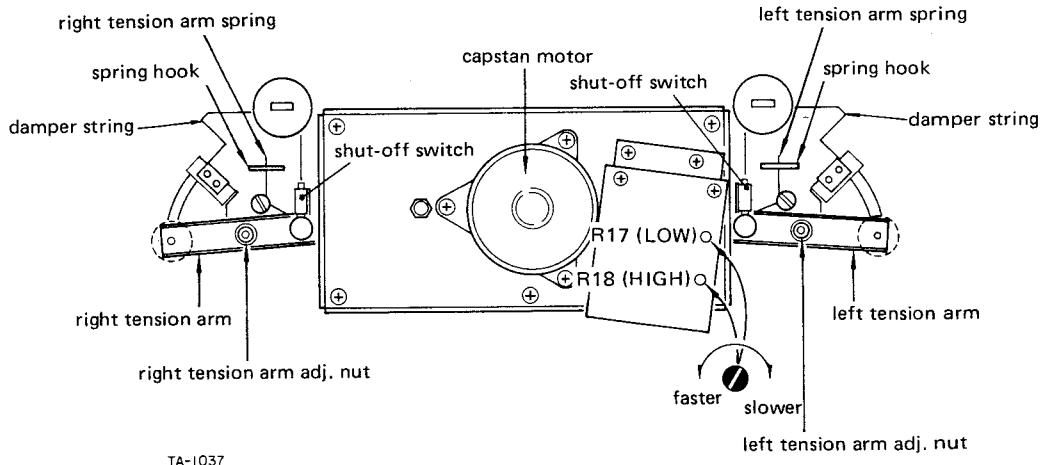

Fig. 2-8 Tension arm height, tension arm force, damper function, and tape speed
3. Stop left (right) guide roller's rotation by hand. Adjust by turning the left (right) tension arm adjusting nut (refer Fig. 2-8) so that the tape moves in the center of the guide roller.
- Play the tape. Adjust R18 (see Fig. 2-8) for a reading of 3,000 Hz  $\pm 5\text{Hz}$ .